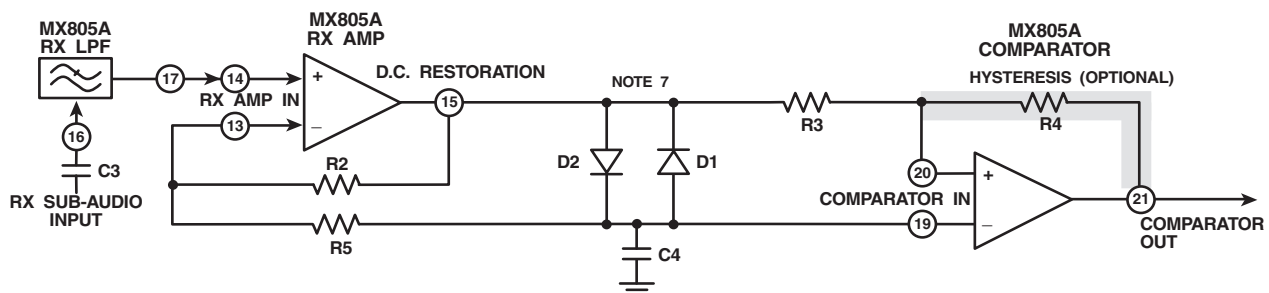
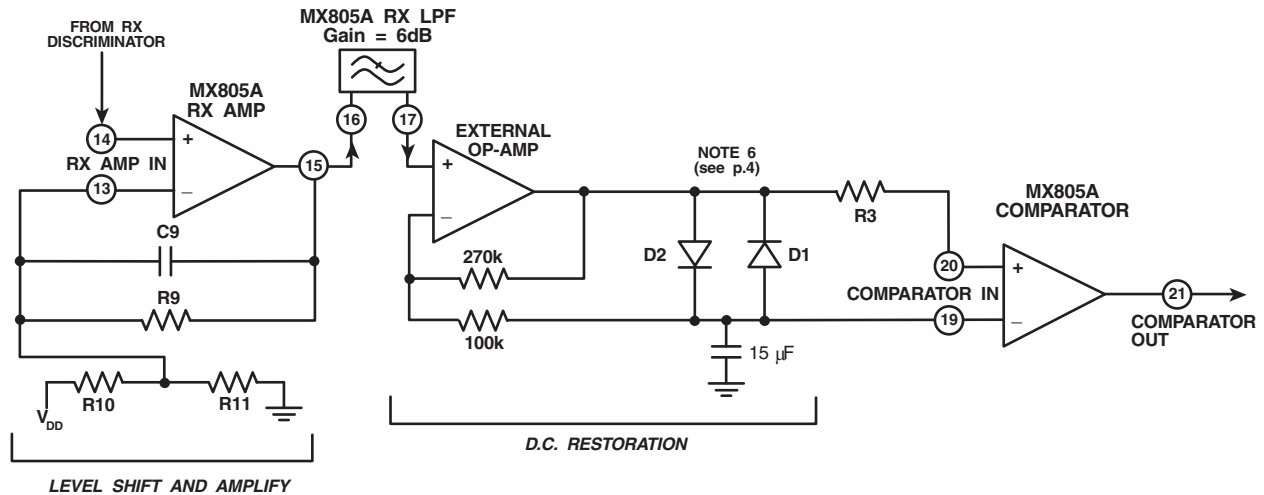

Figure 3: MX805A Input Components
Figure 4: MX805A Input Components using and External Op-Amp
3. Figure 3 and Figure 4 illustrate alternative input component configurations.
Figure 3 shows an input configuration that is generally for use for CTCSS signal and NRZ data reception.
The output resistance (open loop) of the on-chip Rx Amp is $= 6\text{k}\Omega$. In the configuration shown in Figure 3, the (Rx Amp) RC time constant is therefore 90ms. If this period is too long for some systems, i.e. those using half duplex, short data burst, and external amplifier should be considered in place of the on-chip Rx Amp.
For DC coupling the MX805A to the receiver's discriminator output when using burst mode NRZ communication, it is recommended that an additional, external Op-Amp is employed as configured in Figure 4. This configuration will quickly compensate for sudden shift of DC input bas.